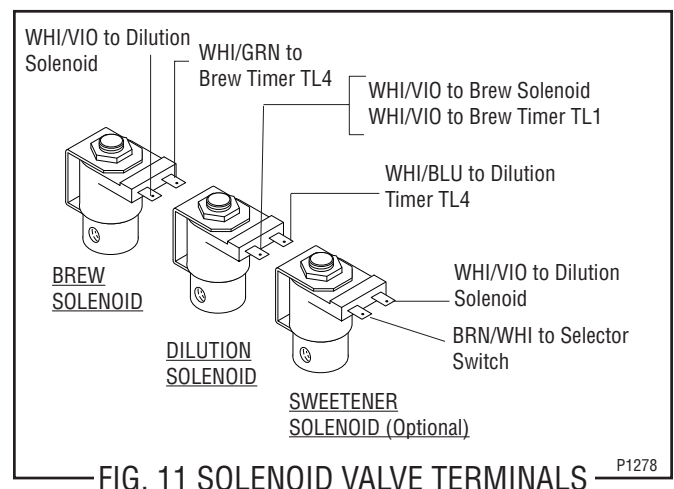

FIG. 11 SOLENOID VALVE TERMINALS
10. Refer to Fig. 11 when reconnecting the wires.